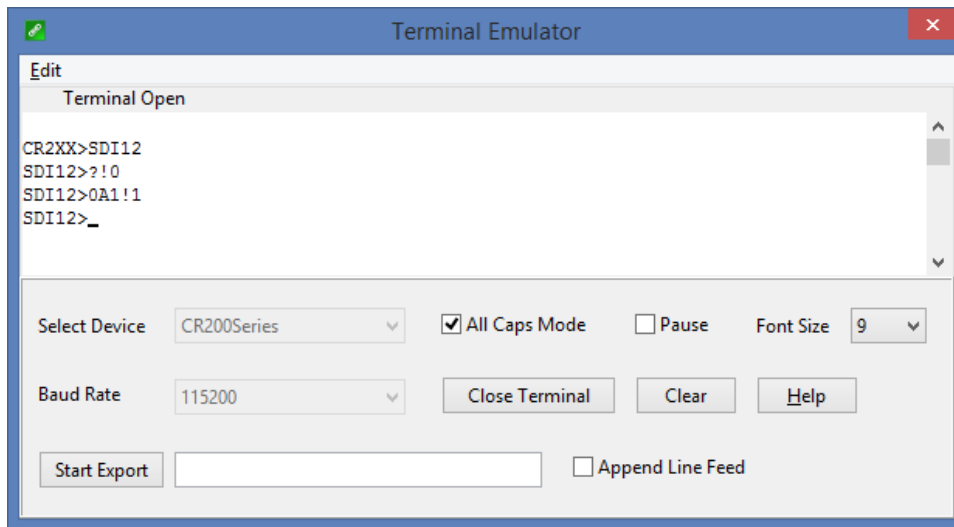

FIGURE C-2. CR200(X) example of using the SDI-12 transparent mode to change the SDI-12 address from 0 to 1
C.12.2 Changing an SDI-12 address — CR200(X) Series
10. To change the SDI-12 address, type **aAb!**, where **a** is the current address from the above step and **b** is the new address (see FIGURE C-2 (p. 30)). Press Enter. The sensor changes its address and responds with the new address.